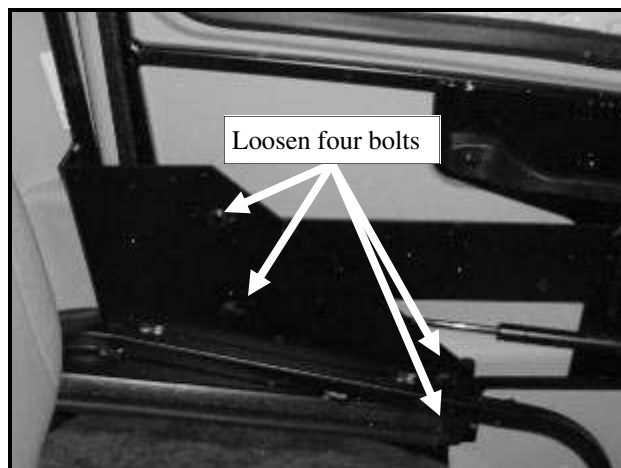

Fig. 8.3 (view from inside of driver's side door)
8.3 If further adjustment of the door is required, the hinge location can be modified. Remove the seat. Per fig. 8.3, loosen the four hinge bolts.